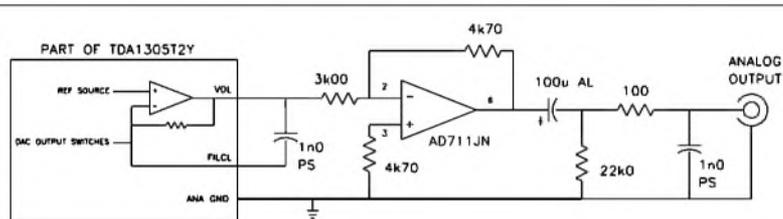

FIGURE 1: RCD 970BX analog output stage.
**T**he Rotel RCD 970BX CD Player (circa 1996) uses the Philips TDA1305 single-ended Continuous Calibration stereo DAC, with an AD711J as the current-to-voltage (I-V) converter. The basic analog output stage is shown in *Fig. 1*.